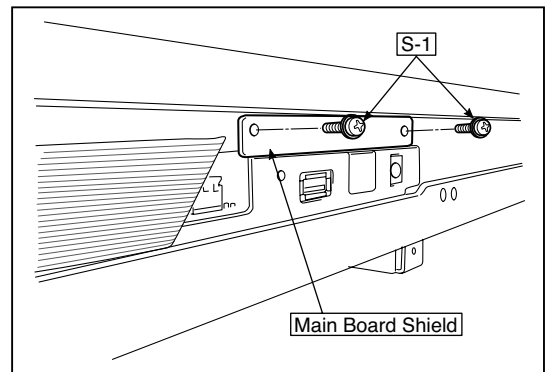

Fig.2
2. Remove the "S-1" screws shown in the figure 2 and then remove the Main Board Shield.